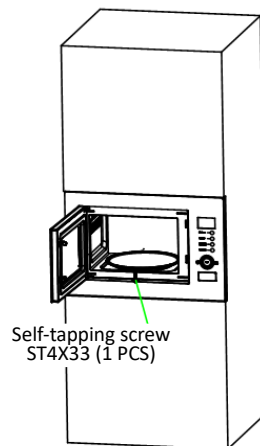

Fig. 5
e) Open the door, then fix it with screws, as shown in Fig. 5